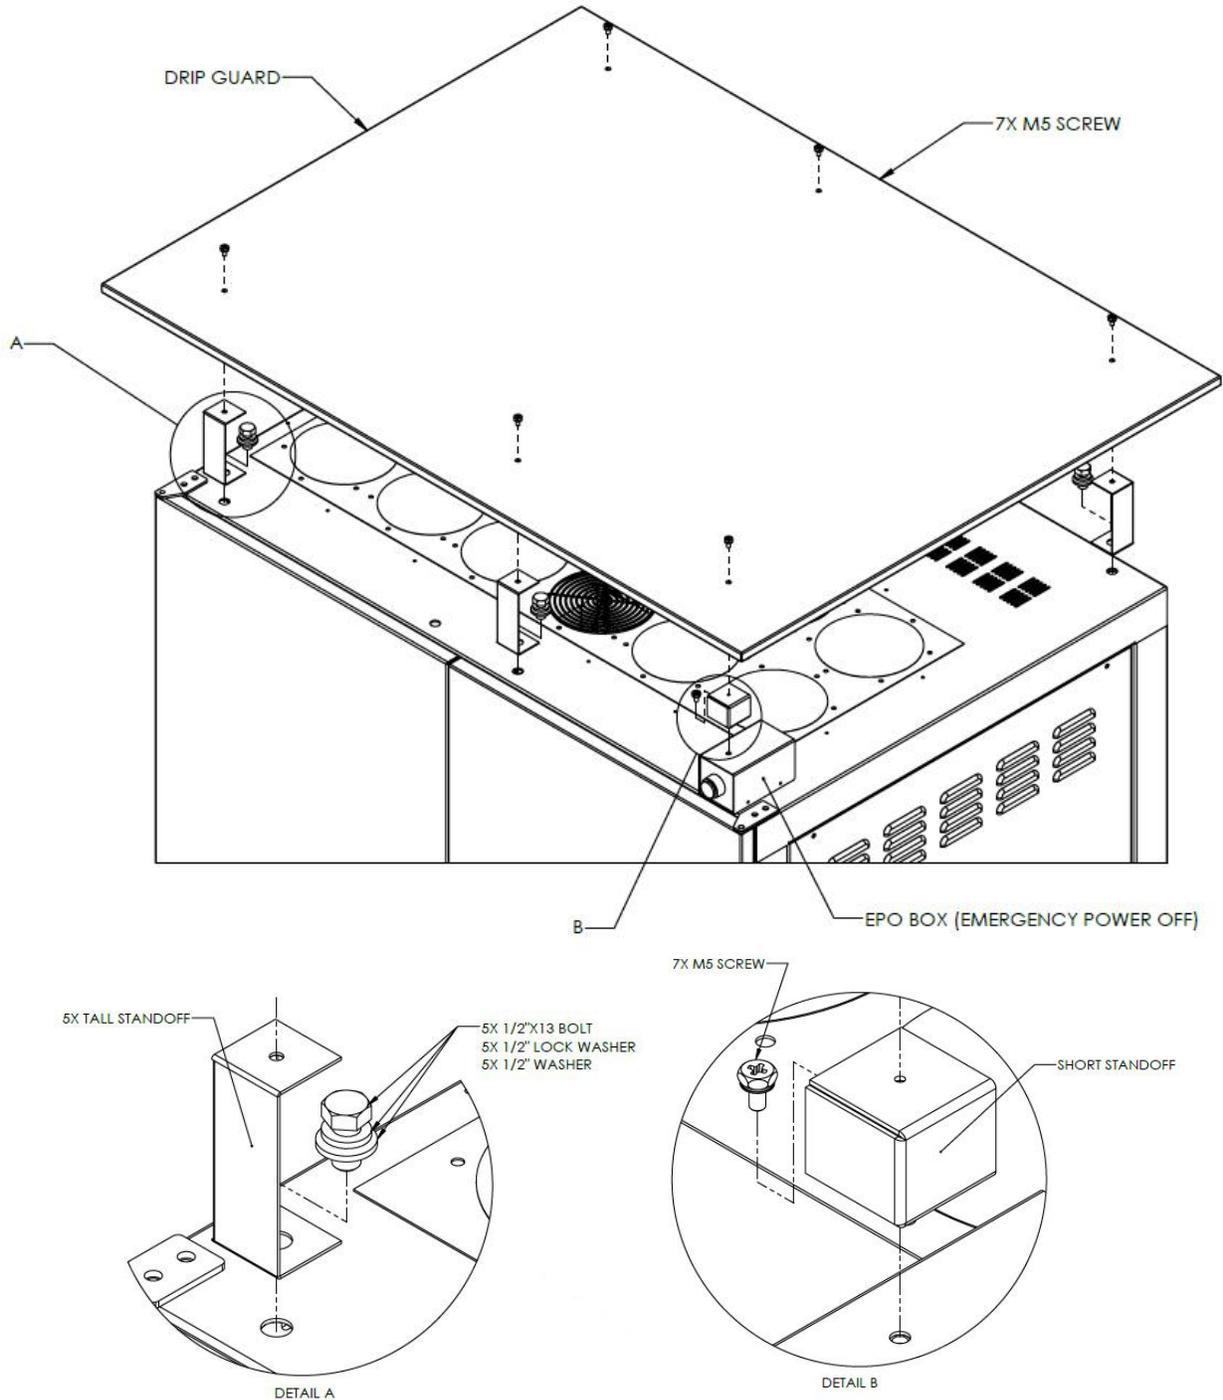

Figure 14 – Drip Guard Installation (Note Detail A, B)
When the Q-LS cabinet arrives, the attachable drip guard will be shrink-wrapped to the cabinet. (Drip guard installation is pictured in Figure 14, below.)
- 2** Using one bolt, one nut, and one lock-bottom washer, attach one long standoff leg to the left-front side of the Q-LS cabinet. (See Figure 14, Detail A)
- 4** If the cabinet has come with an external EPO, use one of the M5 screws to attach the short standoff leg to the right-front side of the Q-LS cabinet. (See Figure 14, Detail B)